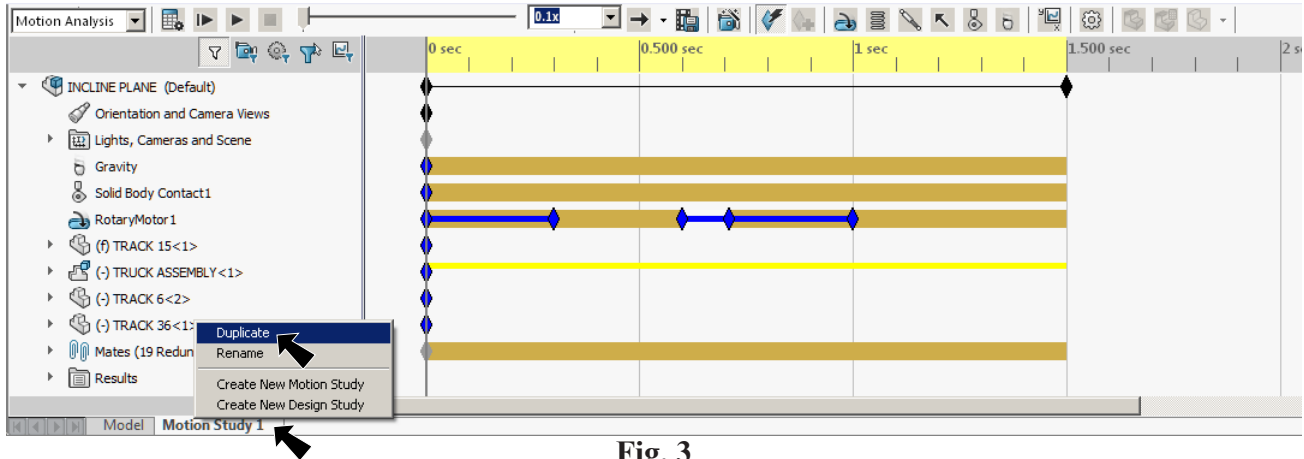

Fig. 3
Step 1. Right click Motion Study 1 tab **Motion Study 1** at the lower left of the graphics area and click **Duplicate**, Fig. 3.